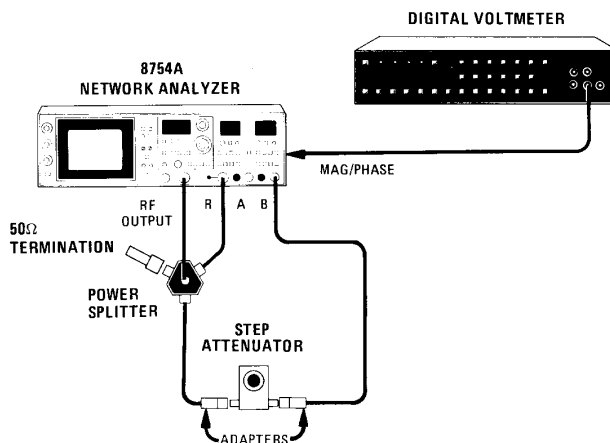

Figure 4-24. MAG/PHASE Output Accuracy Test Setup (Magnitude)
- Connect equipment as shown in Figure 4-24 with step attenuator set at 20 dB.